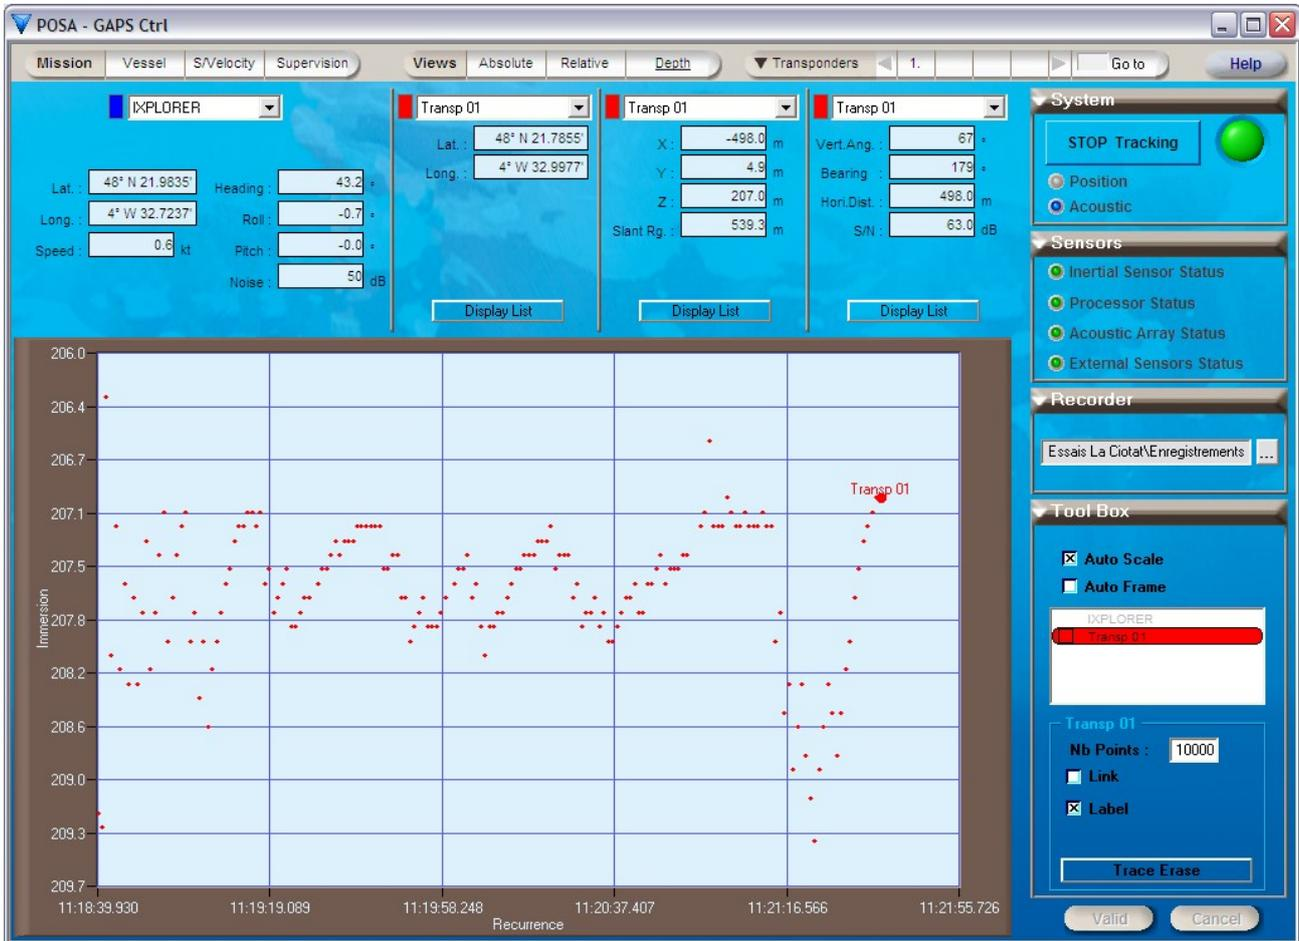

Figure 46 - Depth view
**Window** The corresponding window (see Figure 46) appears.